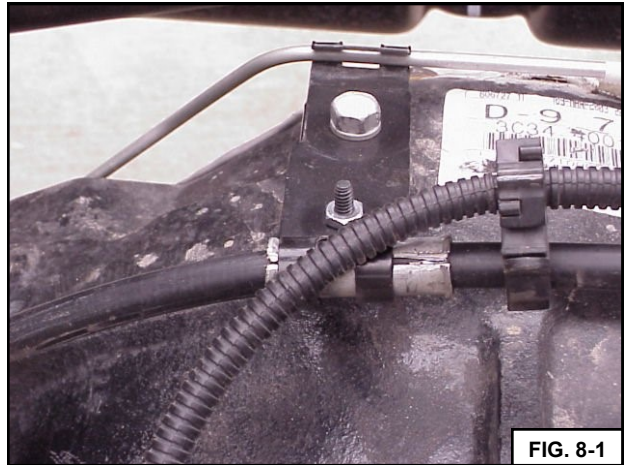

FIG. 8-1
- b Slide approximately 3" of excess brake cable from the driver side to the passenger side, reclamp the ferule into the differential clamp and bolt together where the rivet was located (as shown in Fig. 8-1).